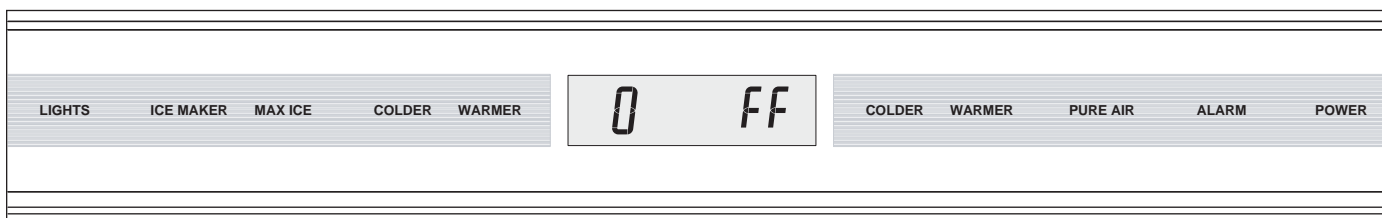
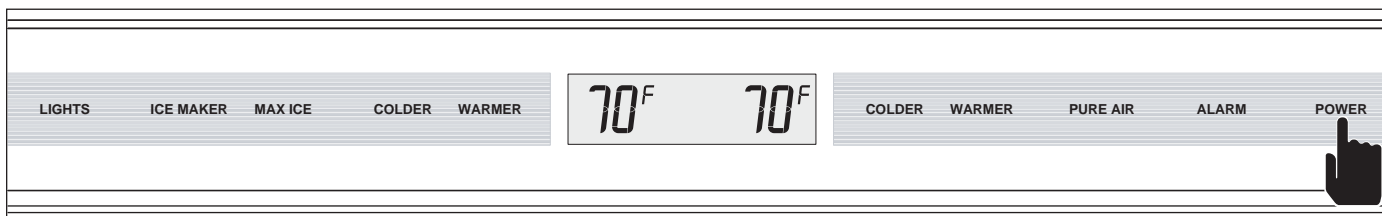

Figure 3-5. Power Supplied to Unit, but Unit in OFF Mode
Figure 3-6. Switching Unit ON (or OFF) - Press POWER Key, Actual Temperatures will be Displayed
All units are shipped in OFF Mode. When electricity is supplied to the appliance, a short power up diagnostics test is initiated where the lights are energized, “- -” (double-dashes) appear in the LCD, followed by the model code, then all components are switched OFF and the word “OFF” appears in the LCD (See Figure 3-5). By pressing the POWER key for one (1) second, electricity is allowed past the control board to the rest of the unit (See Figure 3-6), indicated by two audible beeps, the lights energizing and temperature readings appearing in the LCD.